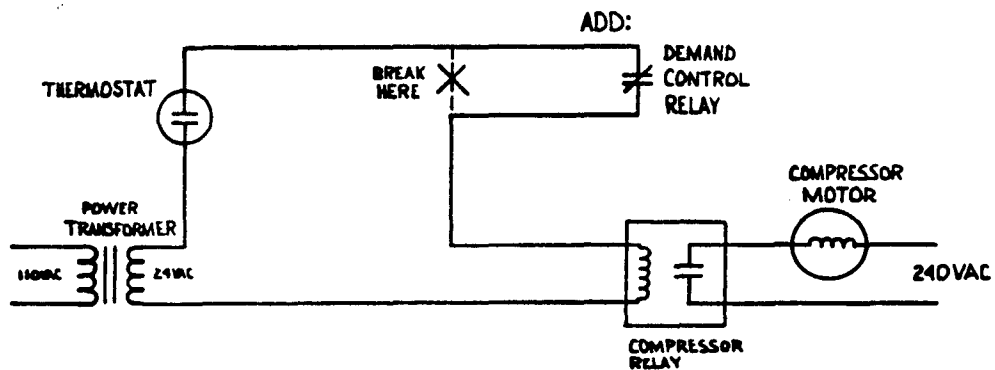

FIG. 9
2. Connecting air conditioners and/or heat pump compressors to the SAVERGY unit is normally accomplished by inserting a relay in series with the low voltage 24 VAC thermostat control loop as shown in FIG. 9 below. (GENERALIZED DRAWING).